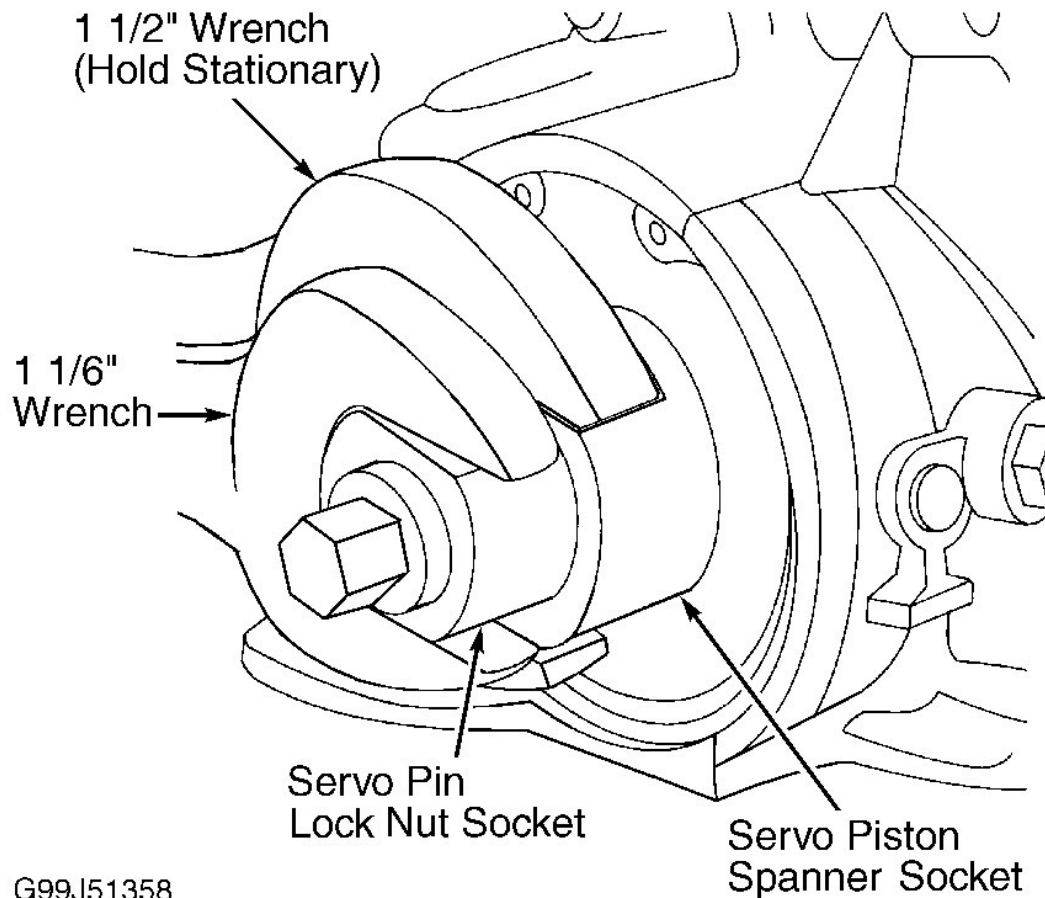

Fig. 8: Loosening Or Tightening Servo Pin Lock Nut
6. Using a 1 1/16" wrench, on the Servo Pin Lock Nut Socket, loosen the servo pin lock nut by turning it counter clockwise. **Fig. 8** . With one hand, push firmly inward on the Servo Pin Adjusting Socket. Using 2 fingers, turn the Servo Pin Lock Nut Socket counter clockwise until it contacts the bottom of the Servo Pin Adjusting Socket.
9. Using a 1 1/2" wrench, hold the Servo Pin Spanner Socket stationary. Use a 1 1/16" wrench to tighten the servo lock pin nut with the Servo Pin Lock Nut Socket. Tighten the nut to approximately 18 ft. lbs. See **Fig. 8**.